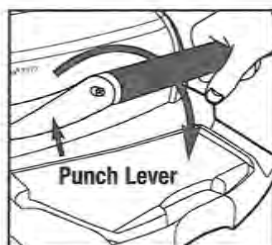

Figure 4 - P110 only
3. **P110** - Pull down and firmly depress the punching lever to ensure a complete punch. (see Figure 4)